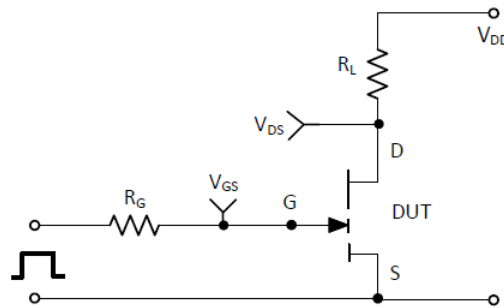

Figure 16: switching time test circuit
(4) See Figure 16 for timing test circuit diagram and definition waveforms